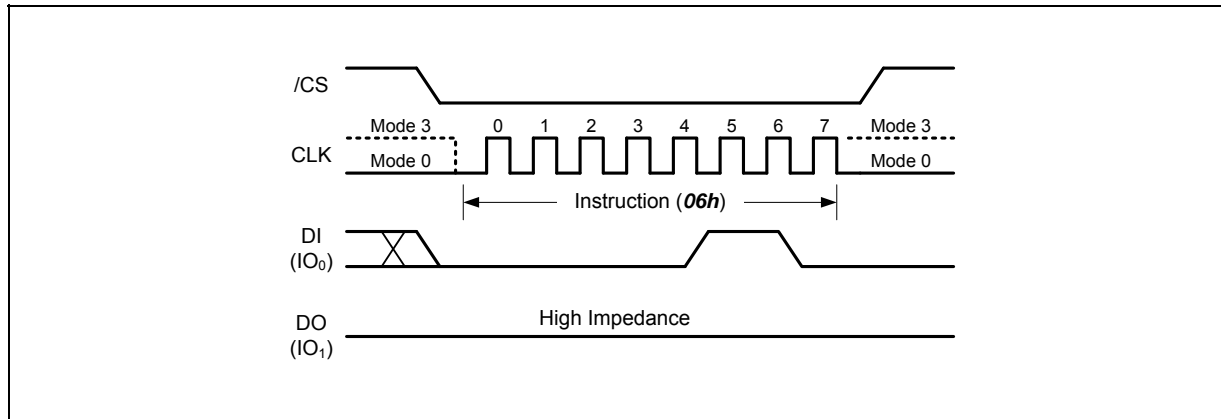

Figure 9. Write Enable Instruction
The Write Enable instruction (Figure 9) sets the Write Enable Latch (WEL) bit in the Status Register to a 1. The WEL bit must be set prior to every Page Program, Quad Page Program, Block Erase and Bad Block Management instruction. The Write Enable instruction is entered by driving /CS low, shifting the instruction code “06h” into the Data Input (DI) pin on the rising edge of CLK, and then driving /CS high.